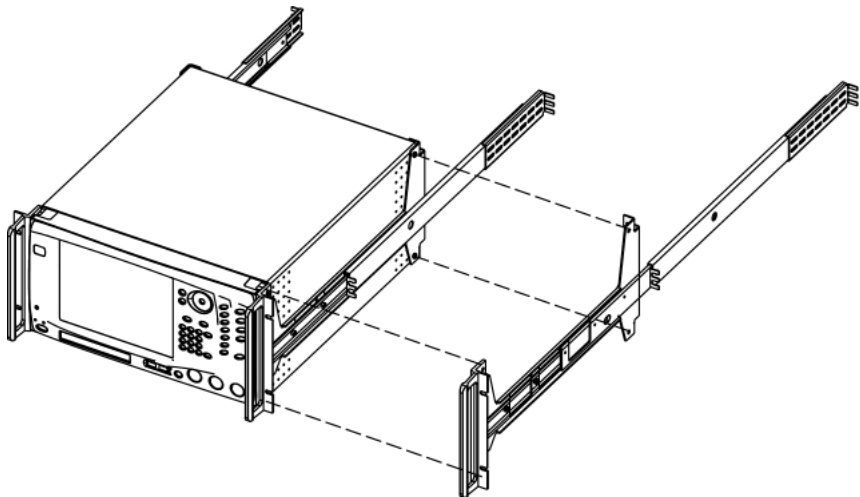

Figure 2-9. Rack Mount Assembly Installation Diagram
- Step 5.** Install the two rack mount bracket and slide assemblies onto the instrument sides using the green-headed screws removed earlier (Figure 2-9).